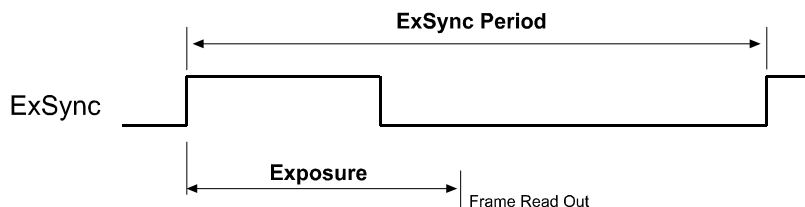

Figure 3-5: ExSync Programmable Mode
- In **ExSync programmable** mode, the rising edge of ExSync triggers exposure and charge accumulation for a pre-programmed period of time. The frame is read out and transferred at the end of the pre-programmed period. The length of the pre-programmed exposure period is determined by the exposure time setting. The falling edge of ExSync is irrelevant (see Figure 3-5).